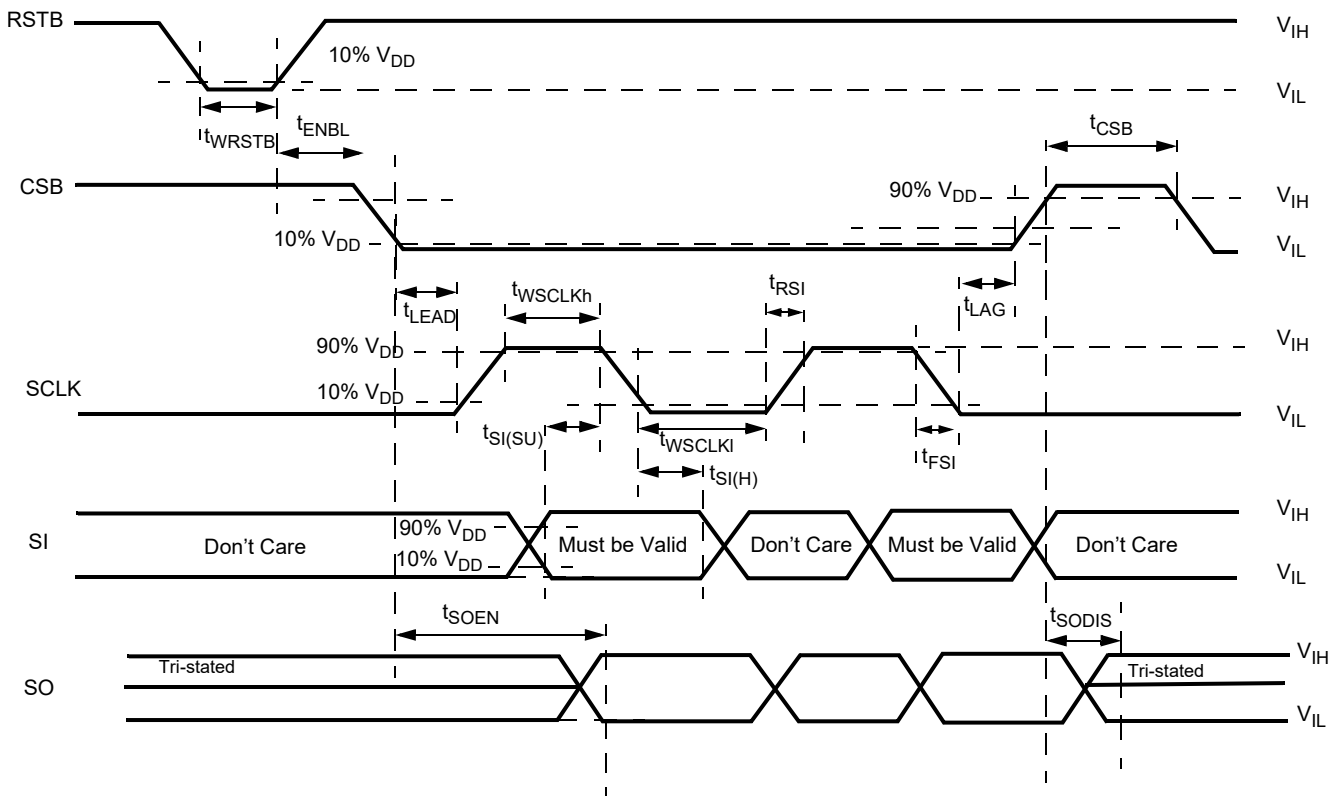
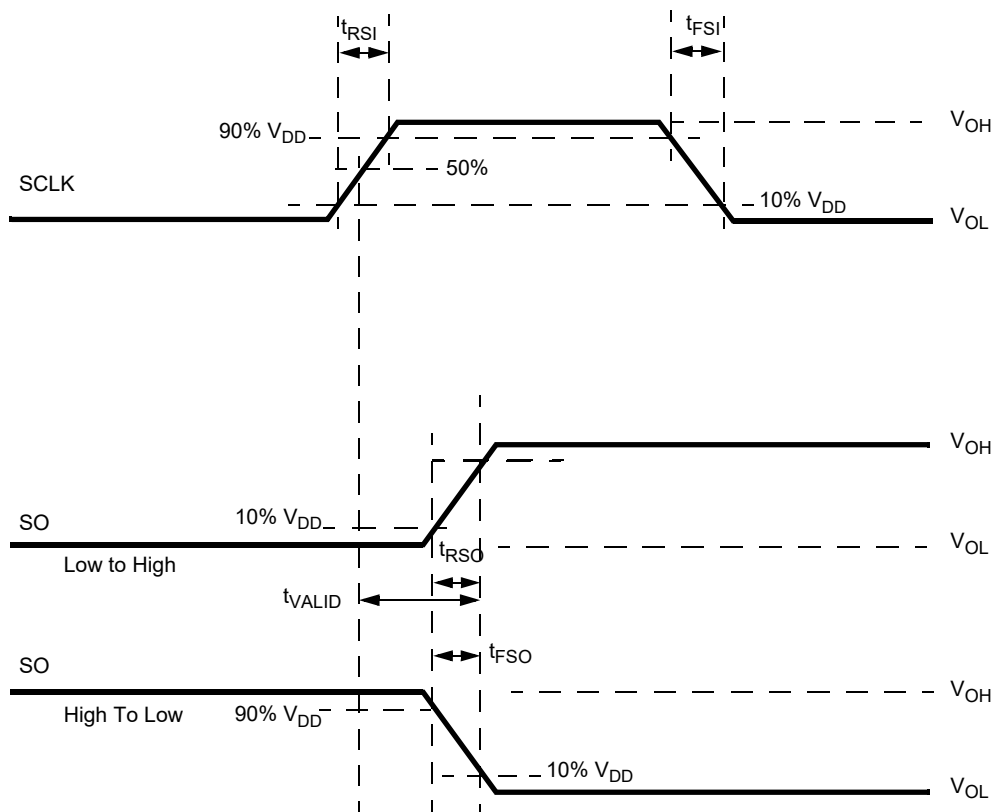

Figure 7. Timing requirements during SPI communication
Figure 8. Timing diagram for serial output (SO) data communication
Data communication over the SPI port is enabled when the CSB pin is in the logic [0] state. Data from the Input Shift registers are locked in the addressed SI registers on the rising edge of CSB. The device transfers the contents of one of the eight internal registers to the SO register on the falling edge of CSB. The SO output driver is enabled when CSB is logic [0]. CSB should transition from a logic [1] to a logic [0] state only when SCLK is at logic [0] (Figure 7 and Figure 8). CSB is internally pulled up to V_{DD} through I_{UP} .
5.2.10 Serial input (SI)
Serial input (SI) data bits are shifted in at this pin. SI data is read on the falling edge of SCLK. 16-bit data packages are required on the SI pin (see Figure 7), starting with bit D15 (MSB) and ending with D0 (LSB). All the internal device registers are addressed and controlled by a 4-bit address (D9-D12) described in Table 14. Register addresses and function attribution are described in Table 15. The SI pin is internally connected to a pull-down current source, I_{DWN} .